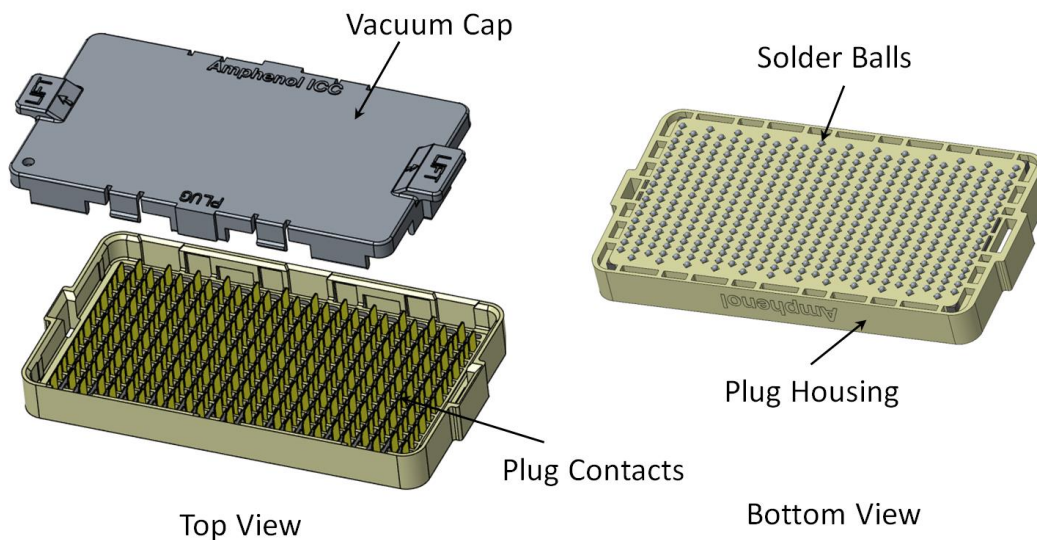
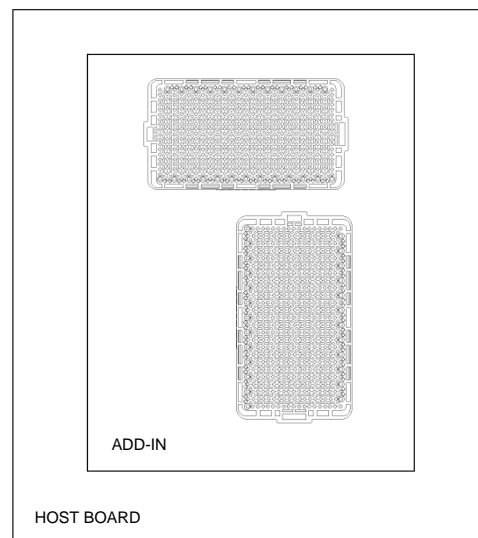

Figure 1A: Plug Connector Features
Figure 5: NOT Recommended unless eventual mating with another PCB is done vertically (without zippering)
M-Series™ 56 connectors are an effective solution for high density, high-speed mezzanine applications. The connector utilizes Ball Grid Array (BGA) for solder attachment to the PCB (See Figures 1A and 1B). Connectors are available with Lead Free 96.5Sn / 3Ag / 0.5Cu BGA. For initial alignment during connector engagement, the plug housing has a chamfered lead-in that captures and guides the receptacle housing. To assure proper mating orientation, plug connectors are keyed with a “large slot” at one end and a “small slot” at the other end, and the receptacle parts are keyed with a “large key” at one end and a “small key” at the other end. The A1 position is identified with a “Δ” at the end of the connector. Connectors are supplied in tape and reel (See Figure 5) and a pick-up cap is standard for vacuum pick- and-place during automated assembly.
When designing for multiple mating applications, the ball grid array patterns shall be within +/-0.05 true position relative to each other (Connector to connector final location tolerance +/-0.1mm.). It is recommended that multiple connectors be parallel to each other or in the same orientation as shown in Figure 4. Orientation as shown in Figure 5 is not recommended. Proper connector orientation will aid compliance with the recommended connector mating and un-mating procedures that are described in section 11.2.
- Connectors are packaged and shipped in anti-static plastic tape pockets, as shown in Figure 5. For additional information on connectors and tape, see Table 4. Reel diameter is 330mm.